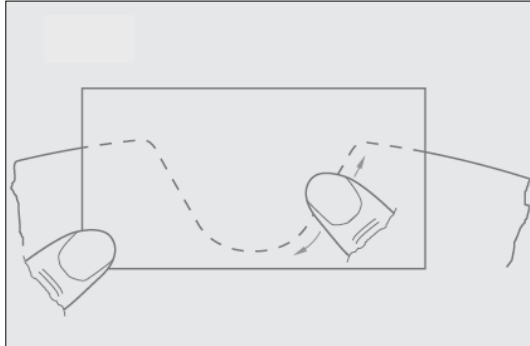

figure 8
- Clean the tooth gap as above and apply a smear of grease around the face of the tooth gap. Hold a piece of stiff paper or card against the wheel and apply finger pressure all the way around the tooth gap to form an impression on the paper/card. This can then be compared to the original tooth gap profile. (figure 8).